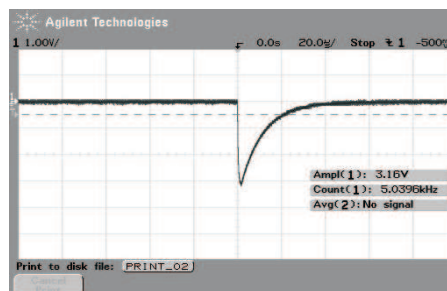

Figure 4: Waveform from PQC biased 3 V above the breakdown voltage and placed in the light.
- Read the count rate from the oscilloscope. The count rate should have increased (see Fig. 4 for a typical result) as the PQC is now photon counting. Record the bias applied, the count rate and the neutral density filter used.